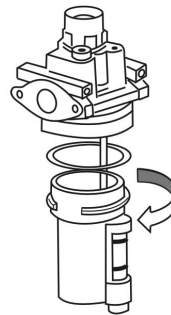

Fig.33
- Check the oil level in the sprayer regularly. If the oil level does not reach the second line, fill hydraulic oil L-HM46 (Fig. 33).